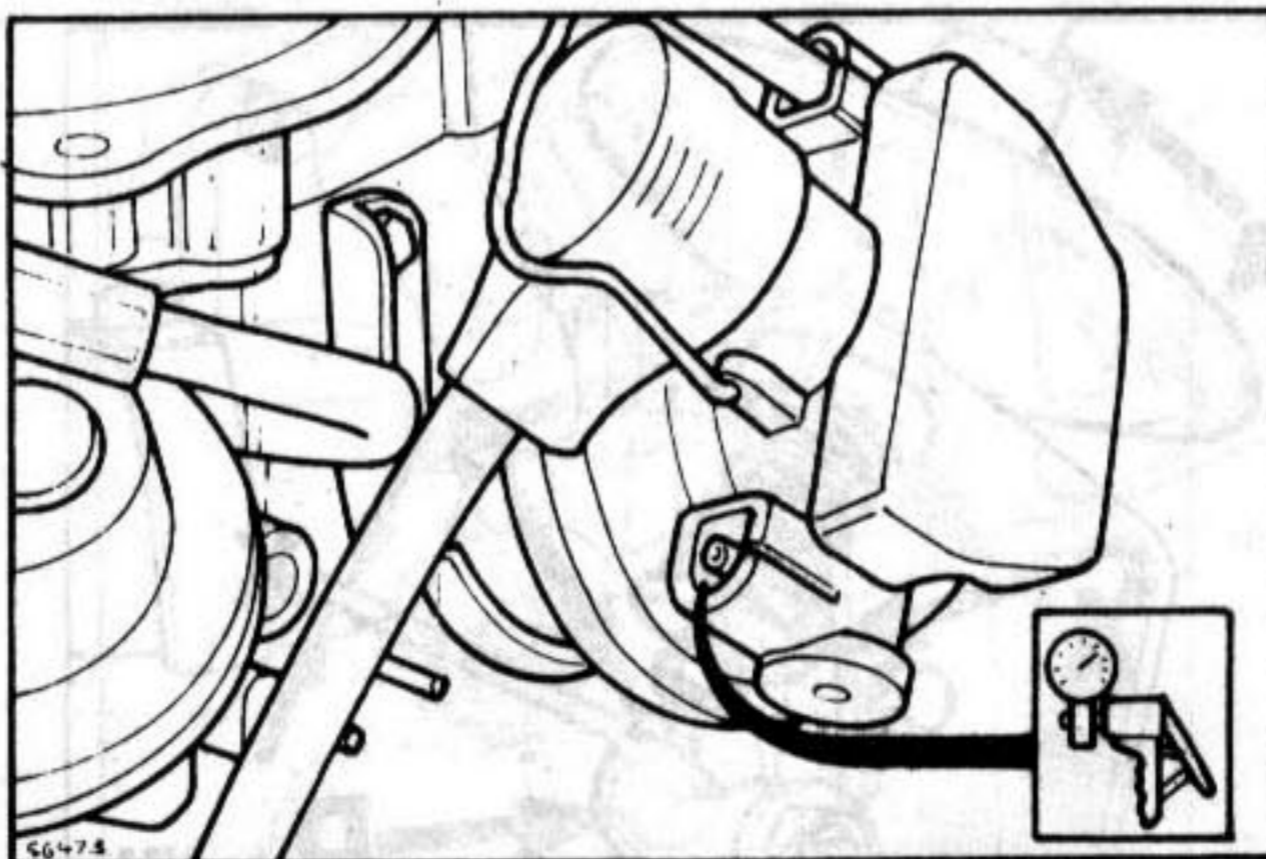

Fig. 2 Vacuum connection
- b) Connect vacuum pump to evacuating valve (Fig. 2) and maintain vacuum of 250 mbar.